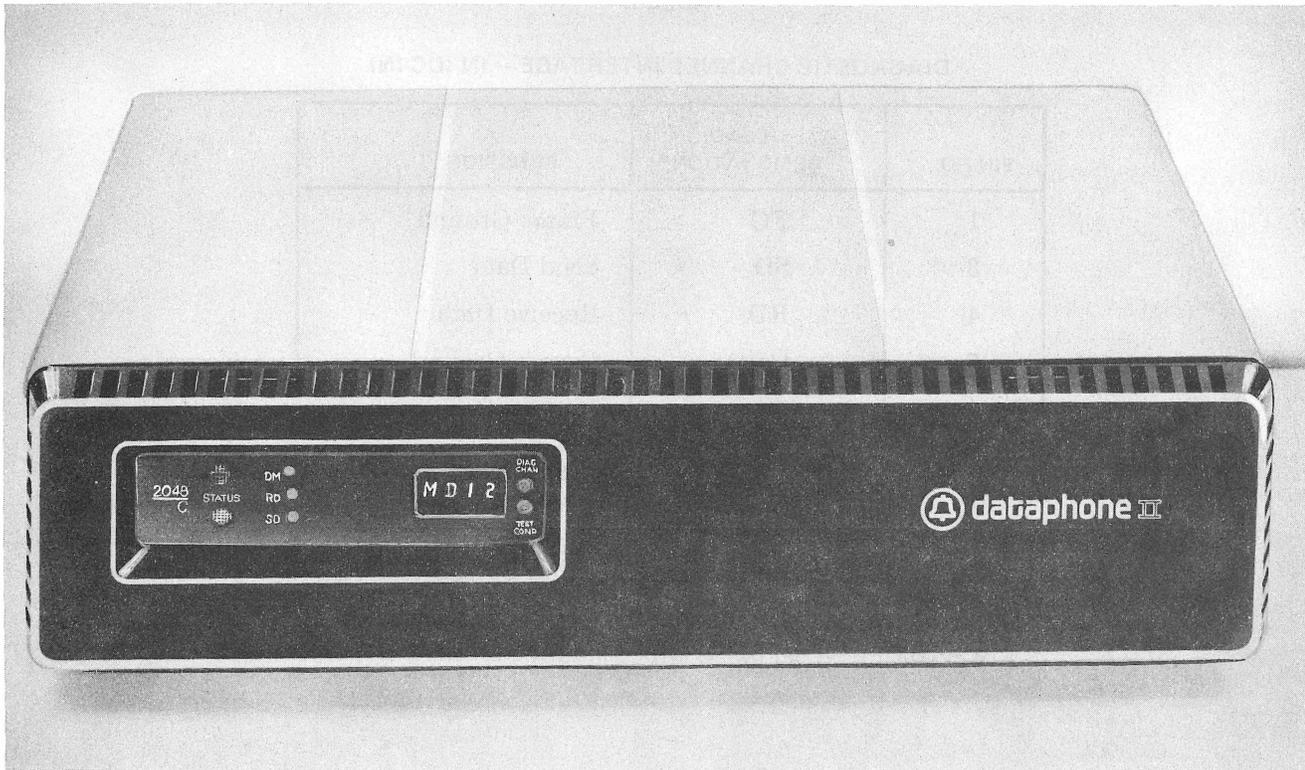

Fig. 16—Data Set (Modem) Fault Display
**3.52** This alphanumeric display indication (Fig. 16) denotes a failure in a data set. This display will indicate a fault in either a control or a tributary data set. In the case of a data set failure in a tributary data set the problem is reported to both the local (tributary) data set and to the associated control data set.